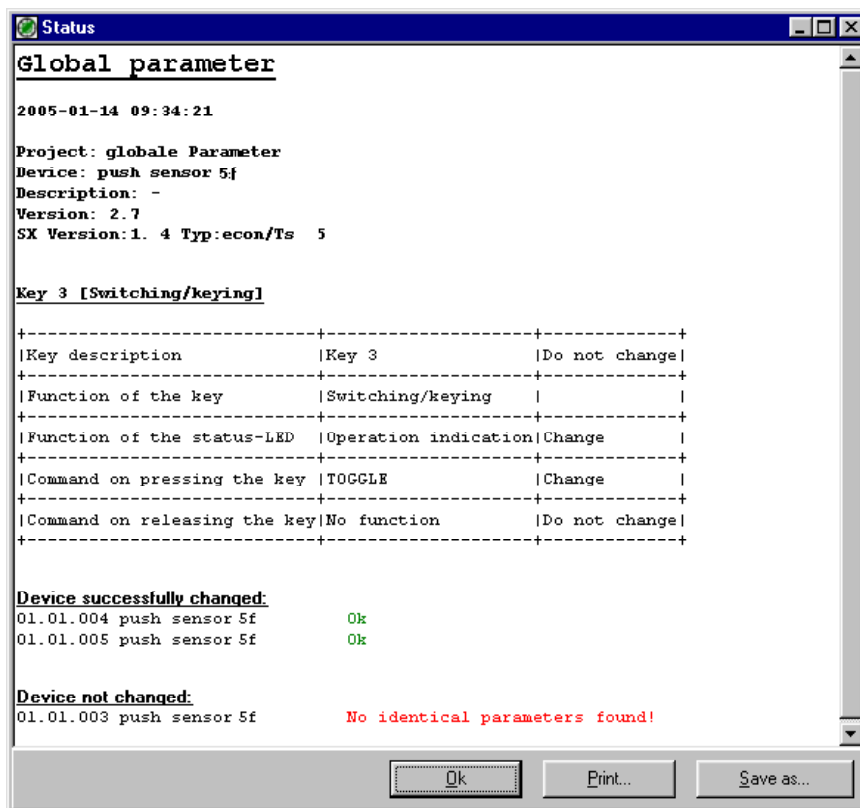

Fig. 7: Example of a status report after global parameter adaptation
8. At the end of the adaptation procedure, a status report gives an overview of all products adapted (see fig. 7) with a list of all devices successfully adapted and of those not adapted. For failed adaption attempts, the reason of the failure is displayed. Possible failure causes are shown in table 1. The status report can also be printed out or saved as an RTF file.